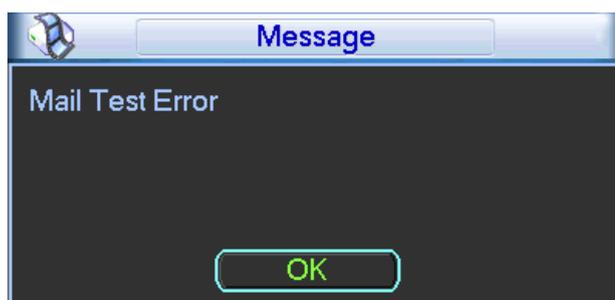

Figure 4-69
- Interval: Please check the above box to enable this function and then set the corresponding interval. System can send out the email regularly as you set here. Click the Test button, you can see the corresponding dialogue box to see the email connection is OK or not. See Figure 4-69.